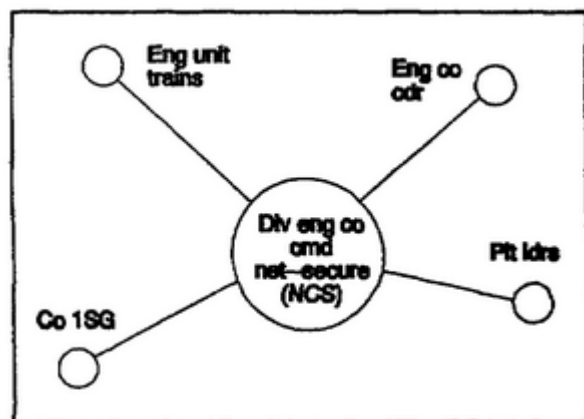

Figure 3-8. Division engineer company command net-secure.
(2) Primary functions.
- (3) Secondary functions. (These items are primary functions of the TOC.)
- b. TOC. Division engineer companies support a maneuver TF in a command or a support relationship. In a command or DS relationship, the division engineer company collocates its TOC (Figure 3-8) with the TF TOC to provide the required engineer representation. In a GS relationship, the company TOC locates where it can best control the work effort. The division engineer company commander can best control engineer operations in the TOC. His company operates 24 hours a day to execute the operation, watch the current fight, and plan the future fight.
- (d) Division engineer company command net--secure (nine each division) (Figure 3-8, page 3-10).